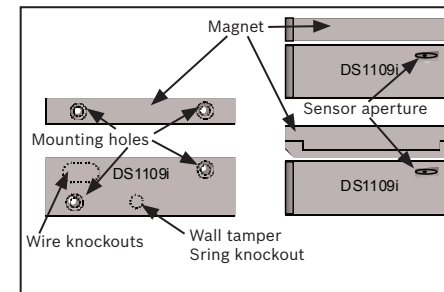

Figure 8.1: Mounting the Detector
- Mount the detector and the Contact Magnet within 1 in (2.5 cm) of each other. The Contact Magnet must be mounted facing the side of the detector with the Sensor Aperture. Refer to *Figure 8.1*.